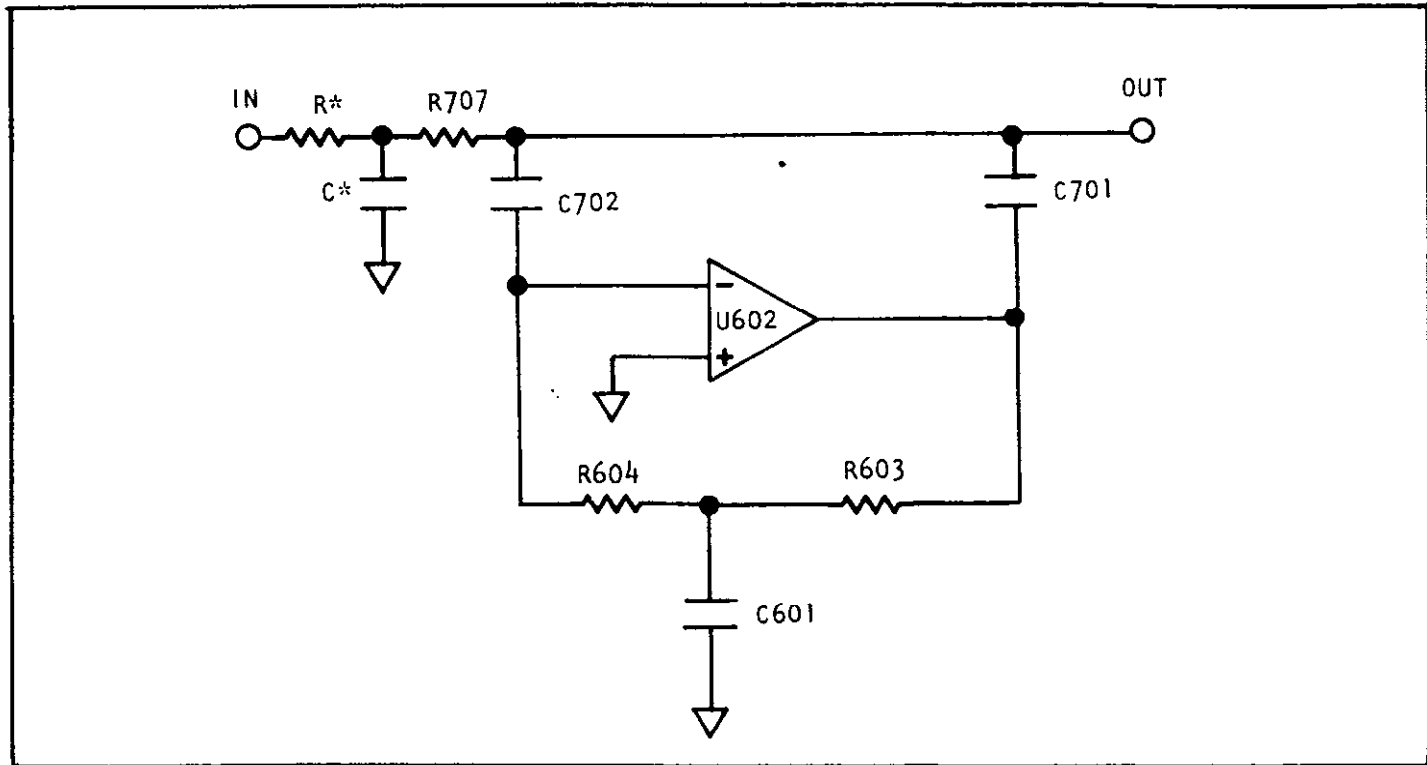

FIGURE 5-10. Simplified Schematic of Active Filter.
h. Active Filter (Figure 5-10).